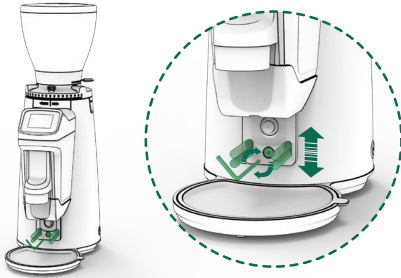

Fig. 5
1. Loosen the screw (15) by using the Allen Key #4 included with your grinder.
2. Adjust the support (9) to the desired height using the portafilter as the point of reference.
3. Tighten the screw (15) with the Allen Key #4 provided (Fig. 5).